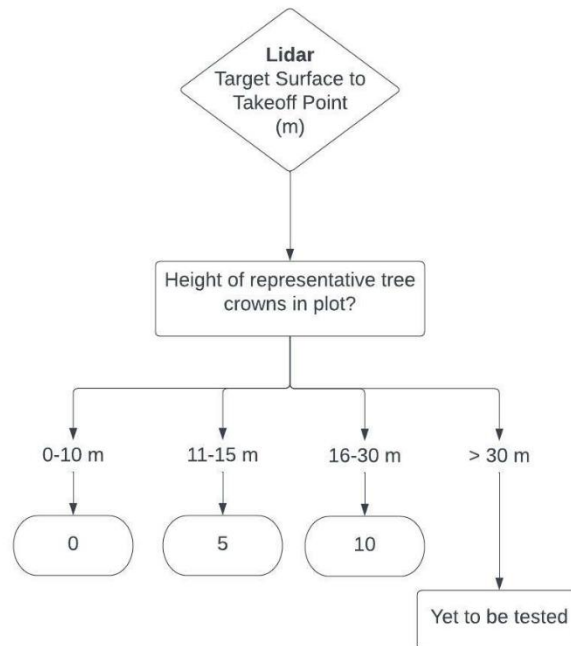

Figure 35: Consider the height of vegetation in the plot when setting Target Surface to Takeoff Point.
- *In forested environments, set this to the height of the representative crowns in the plot. See flowchart below (Figure 35).*